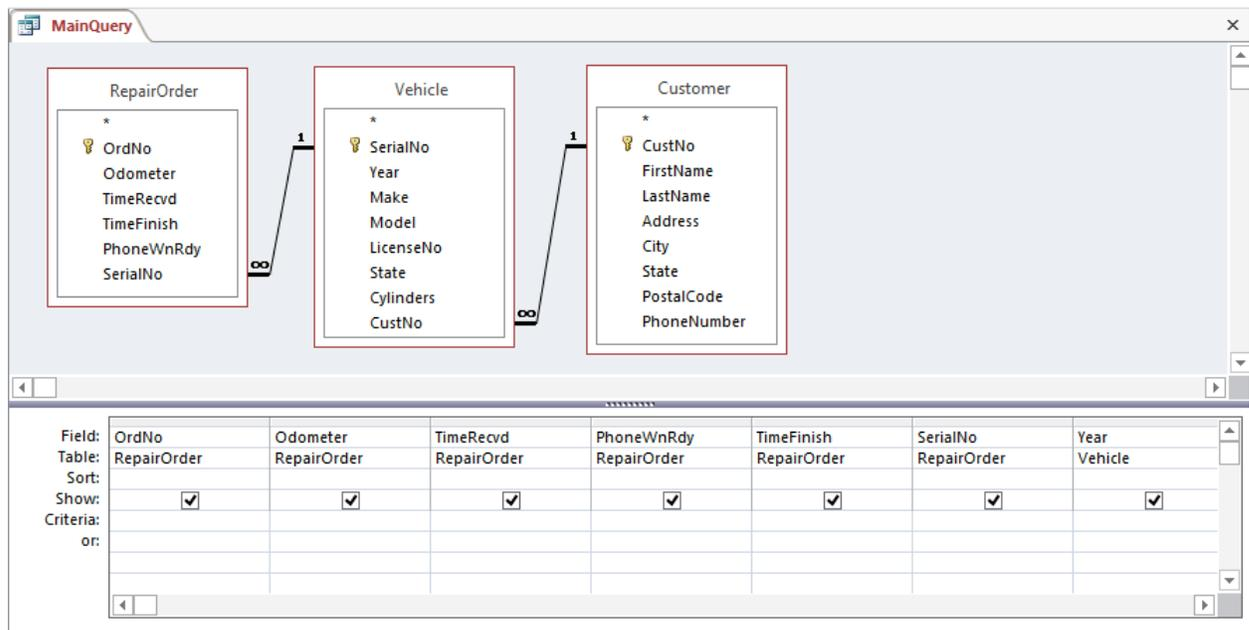

Figure 14: Query Design Window for *MainQuery*
- **Formulate the Query:** In Query Design, formulate a query as shown in Figure 14. Follow these tips to develop the query.
7. Add Textboxes: Add textboxes and change label names according to Table 3. Drag a field name from the field list and drop it onto the form. If the field list is not on the screen, click **Design** → **Add Existing Fields** in the Tools group. You can use the **Arrange** → **Stacked** command in the Table group to make a neatly formatted layout for each group of controls. Alternatively, you can use the tools in the Size & Ordering and Position groups to modify the display. If necessary, move the subform down further to accommodate the new textboxes. You should try to achieve a layout similar to Figure 14.
9. Label the Columns: Select the **Label** tool from the toolbox and place a new label above each column (Figure 14). Type “Vehicle Information” and “Customer Information” as the label captions. Change label sizes **To Fit** to make it easier to drag and center the label above the column. While a label is still selected, click the capital **U** on the toolbar to underline the label’s text.